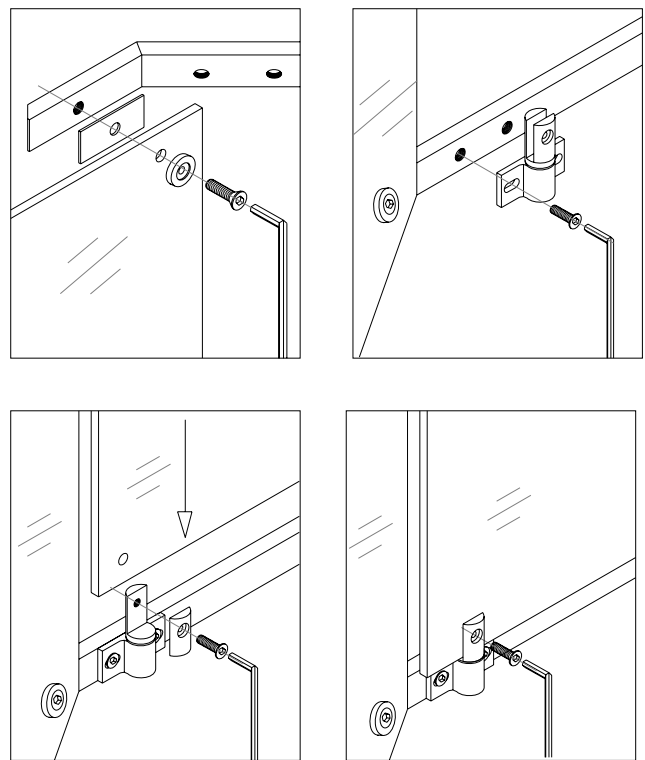

Fig 4
5. Locate the **Pivot Bar (4)**, then, locate the parts **(16, 18, 19)** to fasten the pivot bar to the stationary panels. Use the clear rubber **gasket (16)** to prevent from glass to metal connection. Secure the stationary glass panels with the **decorative glass holders (19)** using the **M8x20 Flat head bolts (18)** (Fig 4).
6. Locate two **pivot assemblies (5)**. Fasten them to the pivot bar using **M8x12 Round head bolts (17)** (Fig 4).
7. Remove the back fastener from the pivot assemblies. Set the door so the holes are aligned. Make sure the rubber gaskets are in between the glass and the metal parts. Secure the back fastener with the provided bolt. Repeat the same steps for the second pivot assembly (Fig 4).